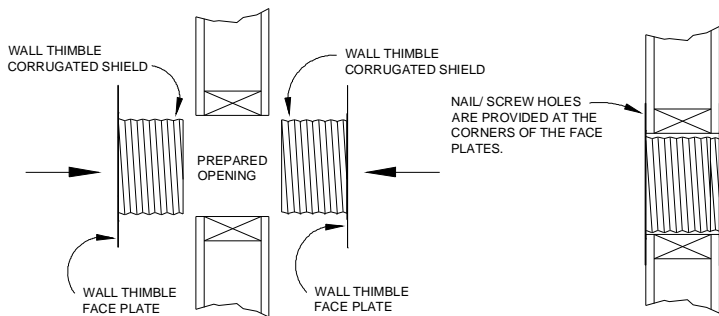

Fig. 5 WALL THIMBLE INSTALLATION
NOTE: The Thimble is shipped in the fully engaged position. Prior to installation, you must disengage the thimble halves. Disengage by rotating the face plates in a counter clockwise direction (CCW) (unscrew the two halves). See Fig 5.
After preparing the proper sized opening (See Table 1), insert the two halves of the wall thimble from opposite sides of the wall and engage by rotating the face plates in a clockwise direction (CW) until a snug fit is achieved. If a tee section with support brackets is to be installed on one side of the wall penetration, it is recommended to frame the opening. The thimble is now installed and ready to receive a section of vent. Slide vent through Wall Thimble (See Fig 5).